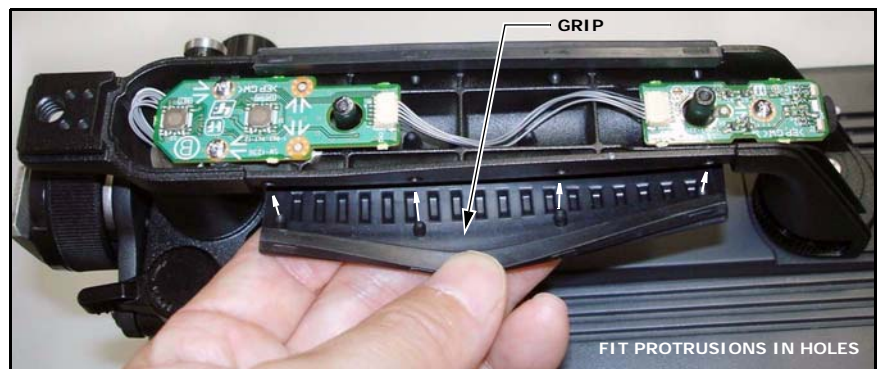

Figure 5
10. Wrap the new grip around the handle. (See Figure 5.)